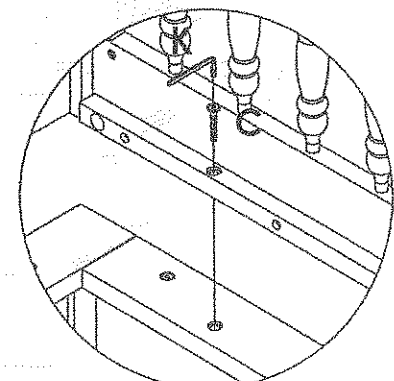

Figure 15
2. Secure it by screwing JCBC Bolts (C) through slat supporter's Ø8MM holes, tighten it up by using an Allen Key (K) as shown in Figure 15.